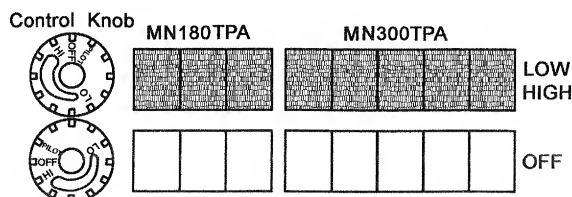

Figure 21 - Burner Patterns
8. Turn control knob counterclockwise ↺ to desired heating level. The main burner should light. Set control knob to any heat level between HI and LO. (see Figure 21)